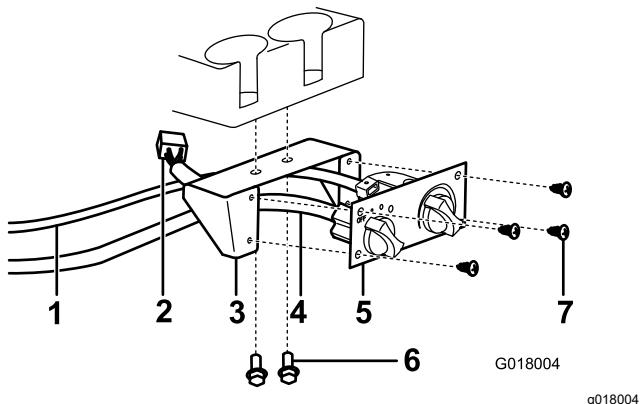

Figure 29
6. Attach the heater-control mount to the dash under the cup holders with 2 flange-head bolts and nuts (Figure 29).
7. Connect the heater-control cable and black wire-harness connector to the heater control and the white wire-harness connector to the heater (Figure 29).
8. Attach the heater control to the heater-control mount using 4 sheet metal screws (Figure 29).